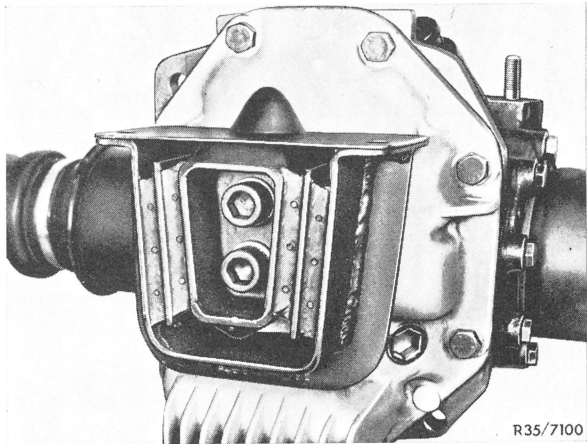

Fig. 3
- Unscrew rubber mount from end cover (Fig. 3).
- Attach rubber mount to end cover, tighten hexagon socket bolts to 120 Nm (12 kpm) (Fig. 3).